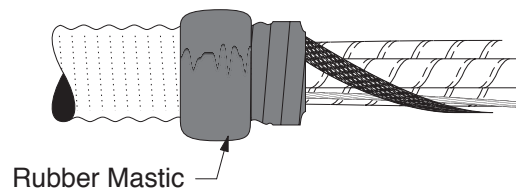

Figure 22
- 3.1 Apply one roll of slightly stretched 2" wide rubber mastic around each cable jacket/armor end, tacky side toward cable jacket. Stretch and tear off the end of the rubber mastic as shown in (*Figure 22*). Do not half-lap the rubber mastic.